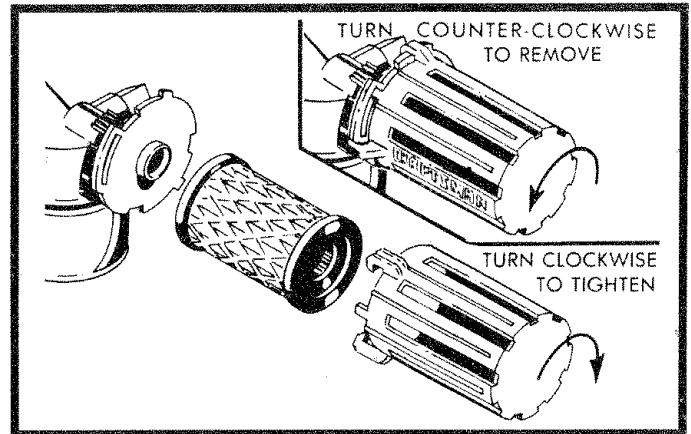

FIG. 13
- Remove the air filter cover by turning counter-clockwise to the stop and pull away from collar (See Fig. 13).
- Remove filter from inside of cover (See Fig. 13).
- Push in on cover and turn clockwise to tighten (See Fig. 13).